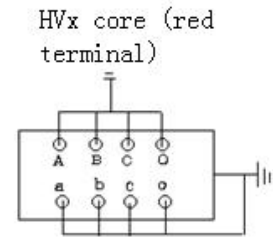

Figure 13 Connection of transformer
(2) Primary winding to secondary winding and ground
A. See Figure 13